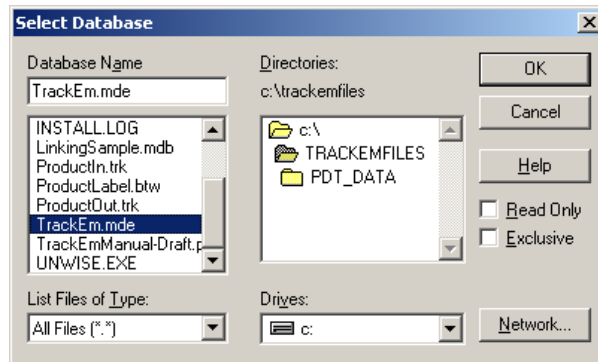

Figure 77
Step 8 – Select TrackEm.mde as shown in Figure 77 and click OK